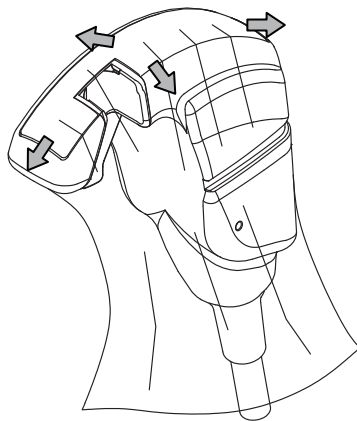

Figure 5 Smoothing of a wrinkle
- (2) Mount a probe cover on the probe tip, pull the cover to smooth a wrinkle, and remove air bubbles from the ultrasonic radiation part (Figure 5). Be careful not to break the probe cover during this procedure.